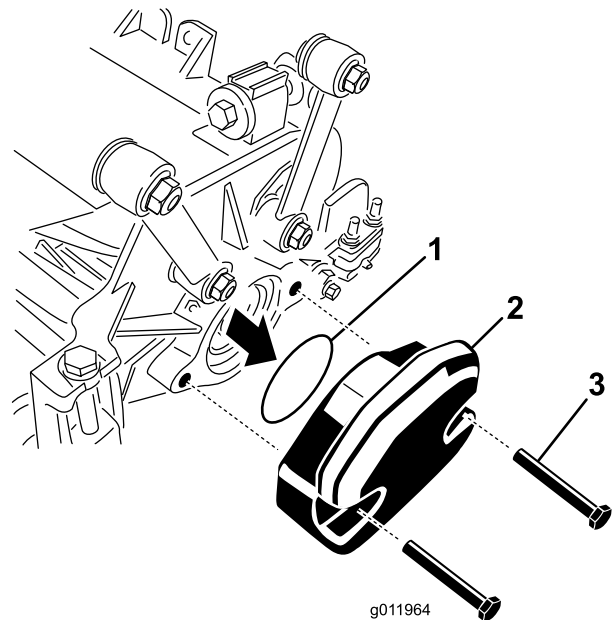

Figure 24
2. Remove the weight and O-ring (Figure 24) from the inside end of the right cutting unit.